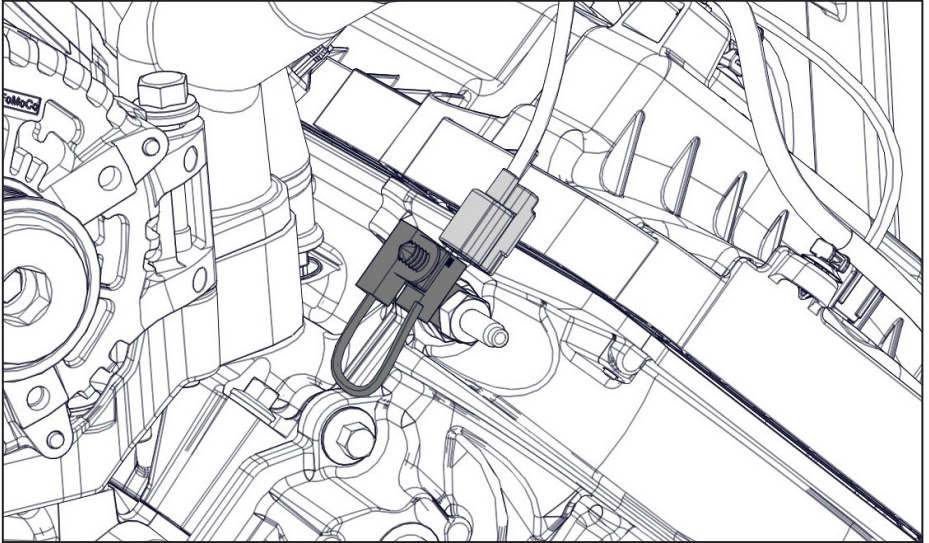

Figure 9 — Remove RIS
- Disconnect the harness from the Radio Interference Suppressor (RIS) and remove it from the mounting stud on the driver side timing cover (Figure 9).